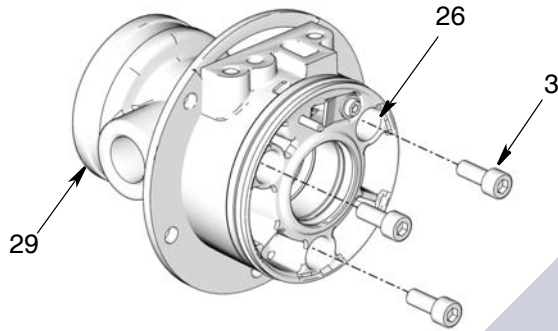

Fig. 8
- Check displacement rod (30) for excessive wear or damage. If displacement rod (30) is damaged, replace the pump.
- Using a 5 mm socket wrench remove the 3 screws (3) from the bottom cover (26) (Fig. 8).
- Separate the bottom cover (26) from the flange (29) (Fig. 8).